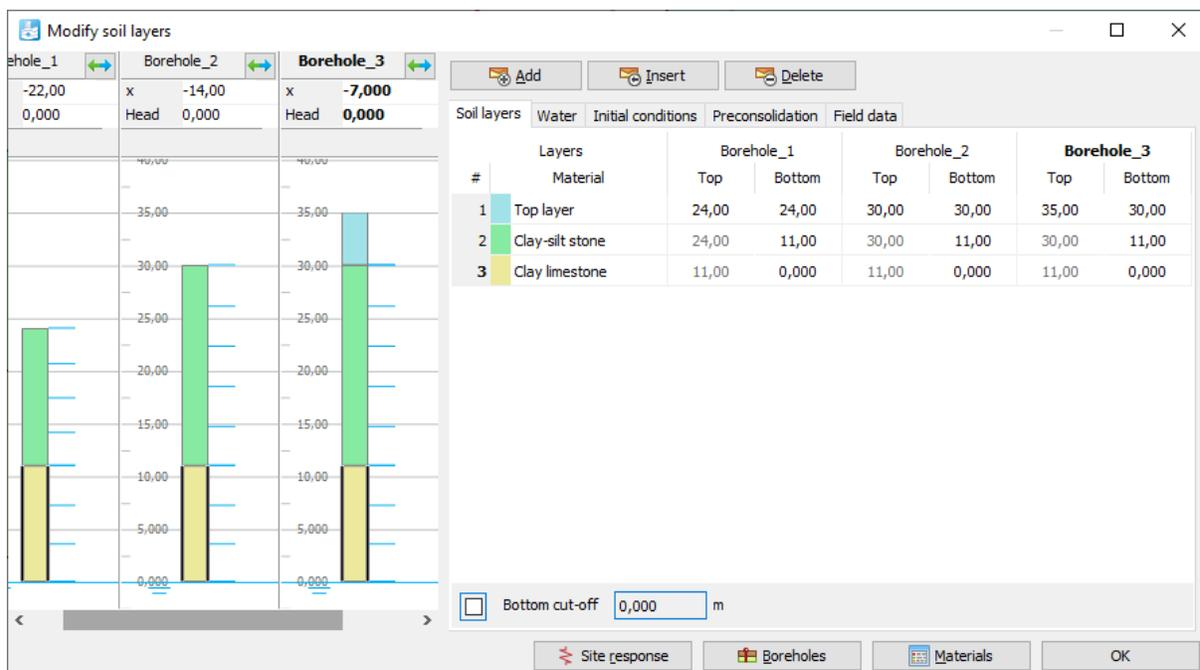
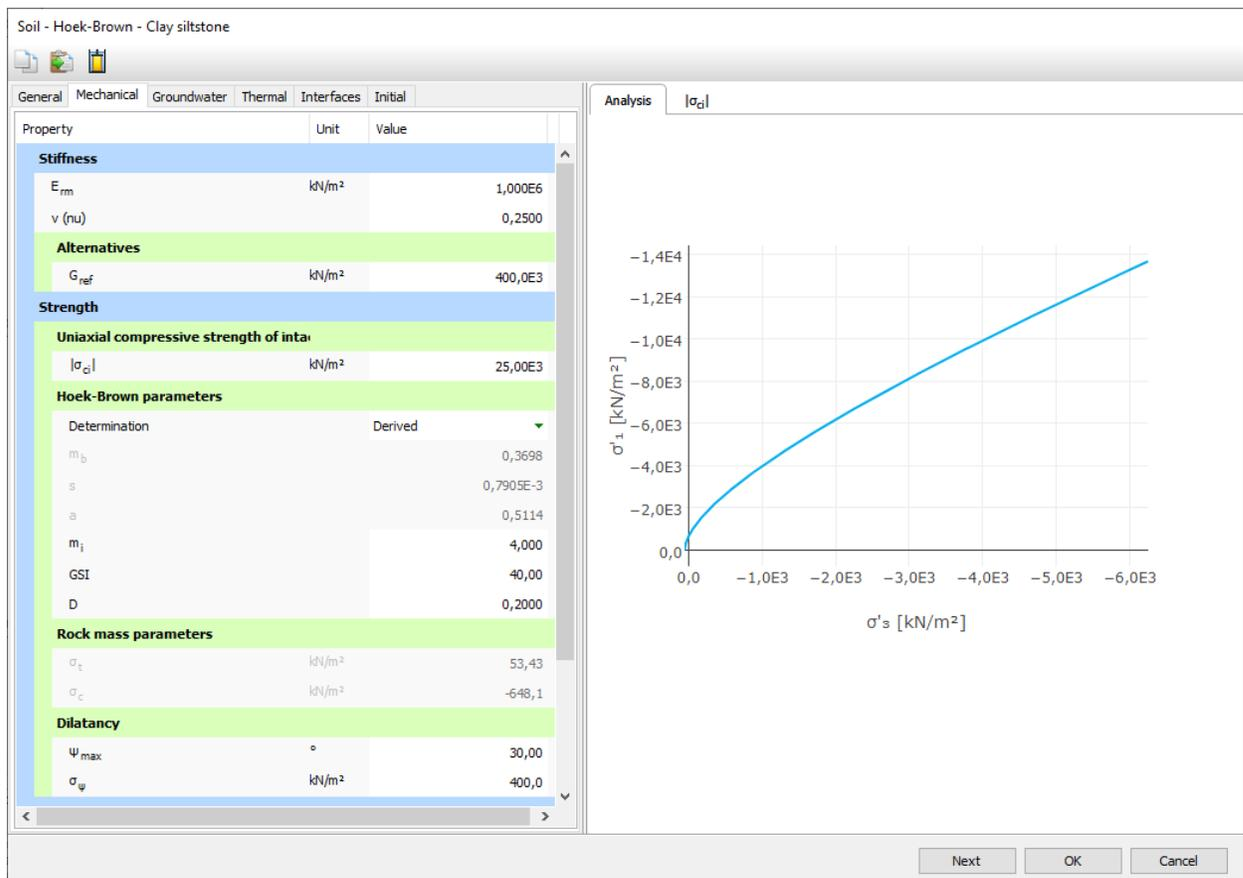

Figure 67: Soil layer distribution
Figure 68: Mechanical Parameter
10. Specify the soil layer distribution as shown in Figure 67 (on page 90).
1. Create soil material data sets according to Table 11 and assign them to the corresponding layers Figure 67 (on page 90) and while assigning the values for soft rock layers as per Table 12: Material properties of the soft rock layers (on page 91), find the analysis for various parameters after expanding the window one of which is shown in Figure 68 (on page 93).